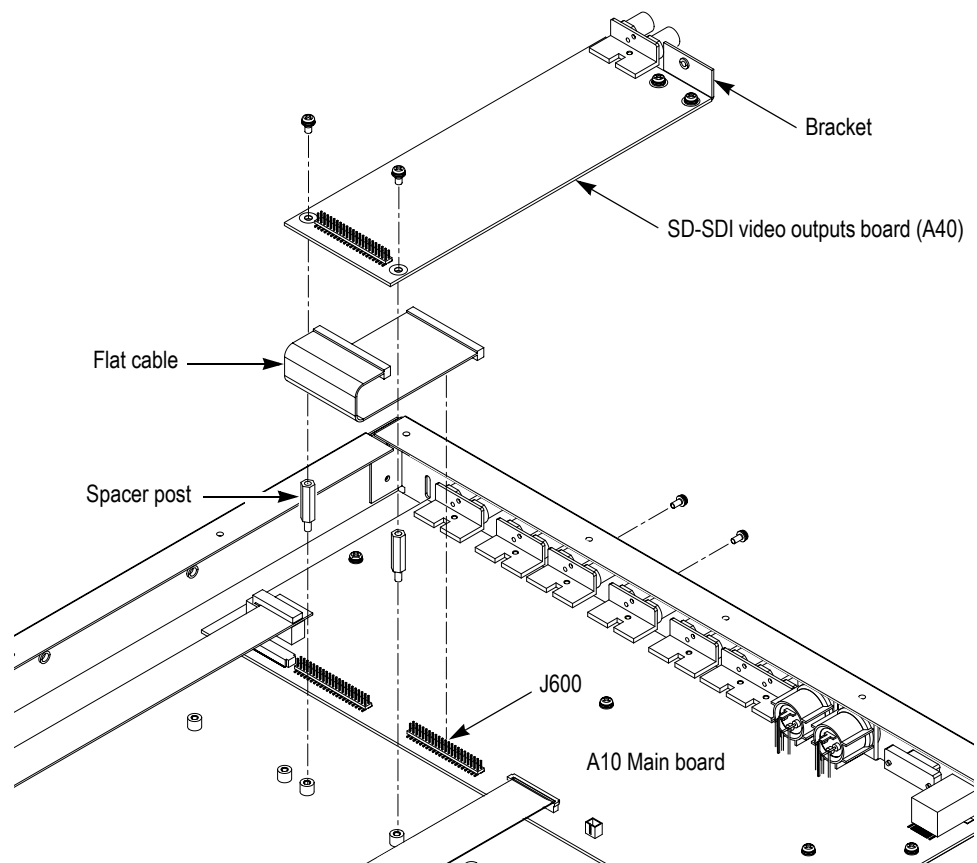

Figure 3: Installing the SD-SDI video outputs board
5. Use a 5.5 mm size nut driver to install the two spacer posts to the chassis. See Figure 3.
6. Connect the one end of the flat cable provided in the kit at J600 on the A10 Main board. See Figure 3.
7. Use a screwdriver with a #1 Phillips tip to install the two screws (M2.6 X 6) securing the SD-SDI video outputs board to the rear panel. See Figure 3.
8. Use a screwdriver with a #2 Phillips tip to install the two screws (M3 X 6) securing the SD-SDI video outputs board to the spacer posts. See Figure 3.